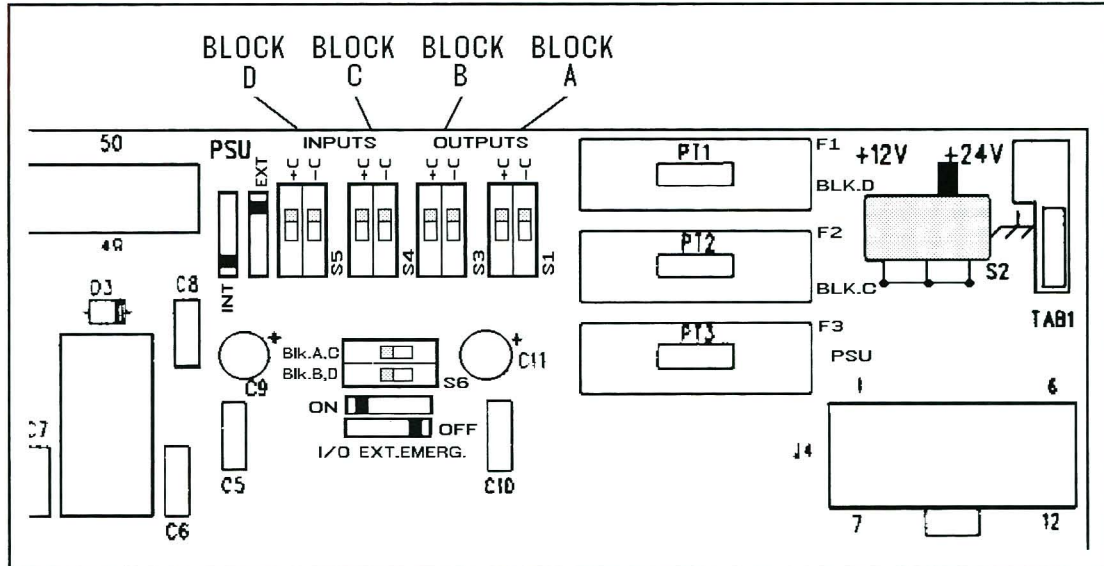

Figure 4-3: Int/Ext Reference Switches -- I/O Board (REV.1)
- Be sure the input block’s reference switches are in the EXTERNAL position (default setting). These switches are located on the I/O board, as shown in Figure 4-3/4-3A.
If your installation includes an external device which contains opto-isolators on its outputs, you may choose to override the controller's optical isolation to a particular input block. This is accomplished by setting the controller's reference switches to the INTERNAL position, as indicated in Figure 4-3.
If your installation includes an external device which contains opto-isolators on its inputs, you may choose to override the controller's optical isolation to a particular output block. This is accomplished by setting the controller's reference switches to the INTERNAL position, as indicated in Figure 4-3.
When using an open collector output block in its INTERNAL mode, the output voltage level can be set to either +12V or +24V. This is accomplished by setting the switch on the I/O board, as seen in Figure 4-3.